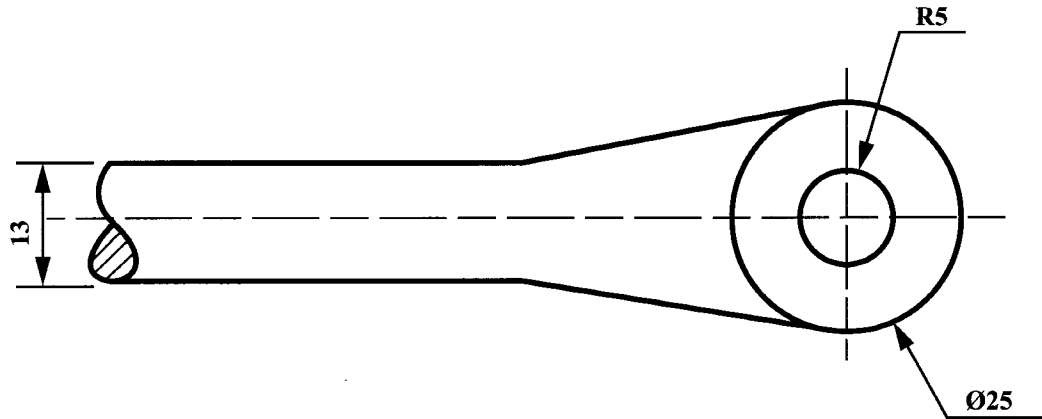

Figure 9. Forged component
9. Figure 9 shows a component that is to be produced from a 13 mm diameter mild steel rod, 300 mm long. One end is to be flattened by forging and a 10 mm diameter hole drilled through it as shown. The other end is to be inserted into a tube having a 13 mm bore.